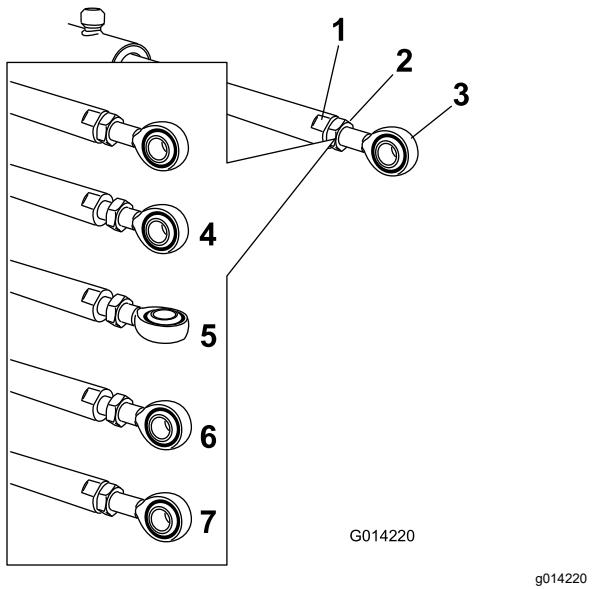

Figure 59
5. Use a wrench on the flat sides of the actuator rod to immobilize it, then loosen the jam nut to allow the eyelet rod to be adjusted (Figure 59).
6. Turn the eyelet rod in the actuator rod to shorten or lengthen the extended actuator to the desired position (Figure 59).